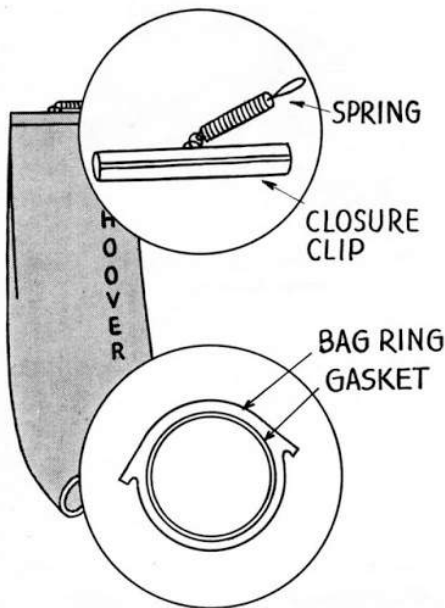

FIG. 33—The open top bag assembly
1. Figure 33 illustrates the open-top bag, the bag closure clip and spring, the bag ring and gasket. (Models having bag support springs within the handles have no springs on the bag closure clips.)